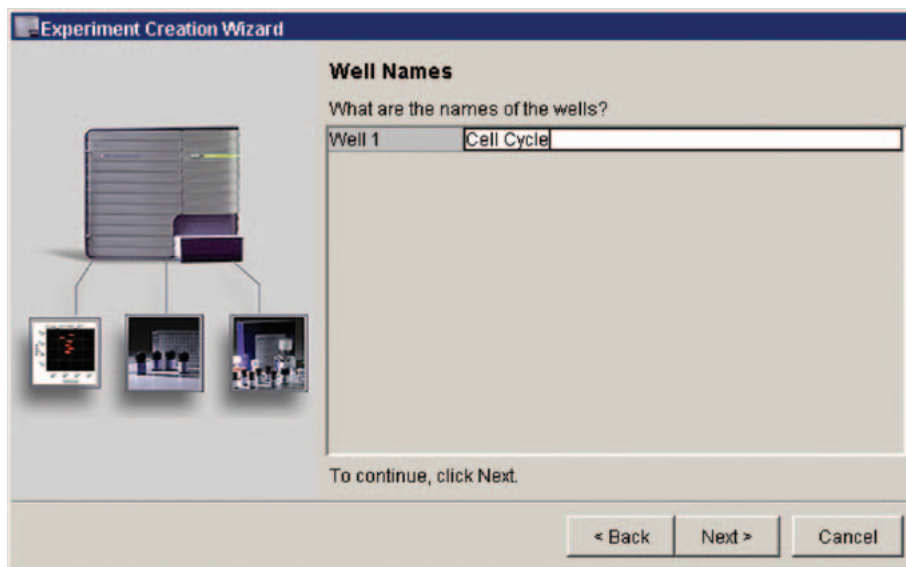

Figure 5
- The Well Names View appears (*Figure 5*).